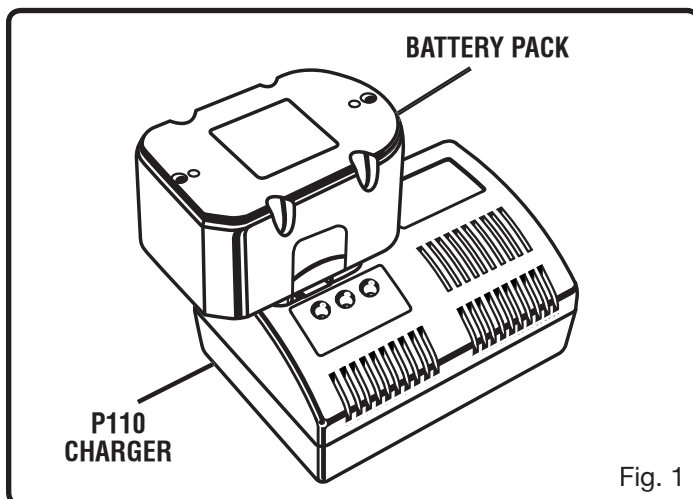

Fig. 1
- Place the battery pack in the charger aligning raised rib on the battery pack with the groove in the charger. See *Figure 1.*